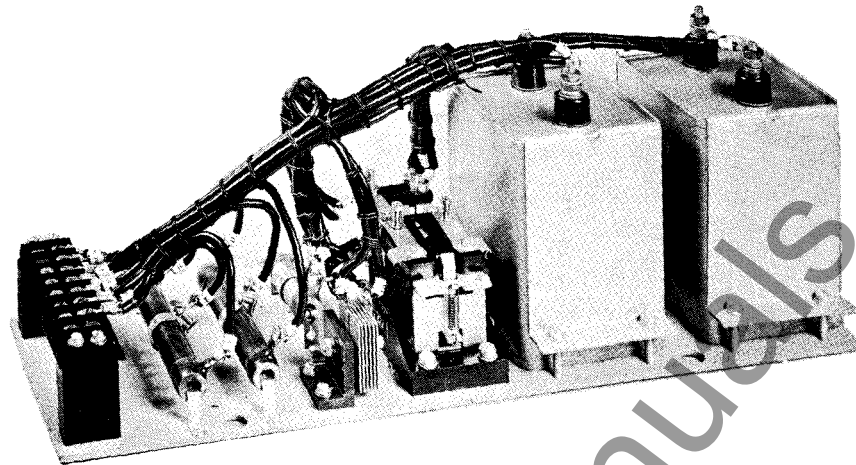

FIG. 2
Now, let us consider the RC "DynAC Brake" shown in Figure 2. This RC "DynAC Brake" will be connected into the circuit as shown in Figure 7. The operation of the RC "DynAC Brake" and associated control equipment is as follows:
If we now consider the operation of the RC "DynAC Brake" of Figure 2 when operating in the lower direction, we will see a slight difference in the initial operation only. The operation of the RC "DynAC Brake" and associated control equipment is as follows:
- a. First close the MCL contacts. This will energize the SL relay and the RC "DynAC Brake" relay simultaneously. The RC "DynAC Brake" relay will be energized through the SR5 contact. As the two relays, the SL and the RC "DynAC Brake", are energized simultaneously, it has been necessary to introduce an additional time delay into the RC "DynAC Brake" relay to assure that the SL motor control relay will have definitely completed its operation prior to the closing of the BC contacts of the RC "DynAC Brake" relay. This delay has been obtained by the introduction of a 400 ohm resistor in the RC "DynAC Brake" relay. This additional resistor, used only in the RC "DynAC Brake" relay of Figure 2, has been fully explained both as to its purpose and how it accomplishes same under the DESCRIPTION portion of this Instruction Leaflet.